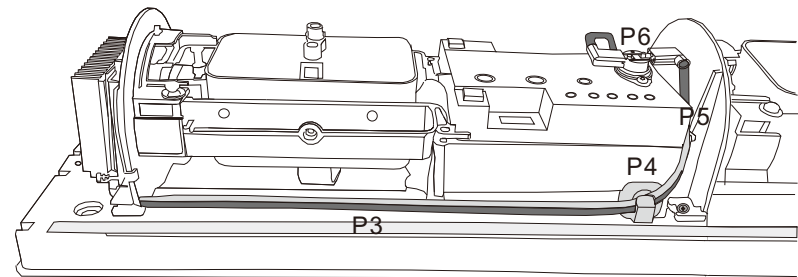

Figure 3
Step 3: As shown in figure 3, please clean, if in need, the surface of position P4 and stick the cable clamp onto this position, neaten and tighten the power cables and press them into the cable slot in position P5.